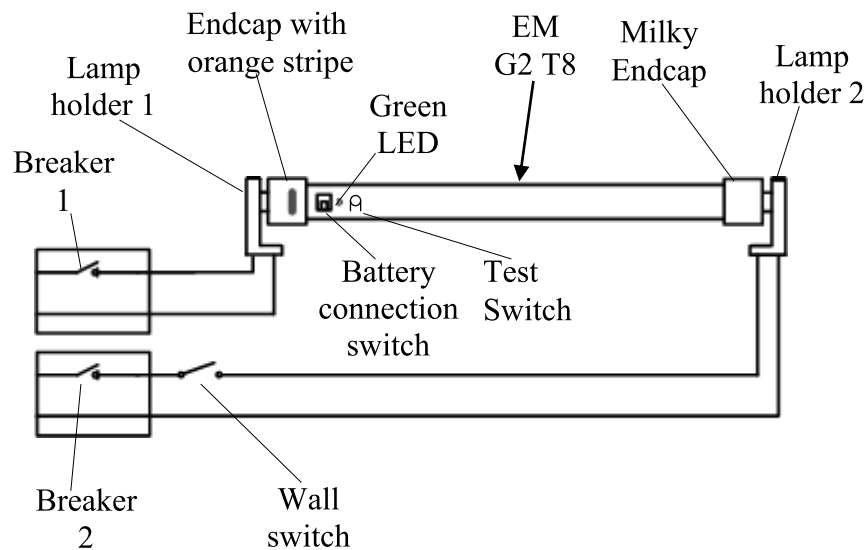

Fig. 1
6. Install the non-shunted lamp holders provided with the aleddra's emergency G2 LED T8 lamp retrofit kit into the fixture: Refer to wiring diagram in Fig. 1.